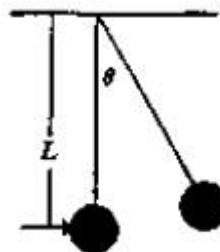

Figure 1: Pendulum
A pendulum is a mass (bob) suspended by a string from a fixed point as shown in Fig. 1. For a pendulum limited to *small amplitude oscillations* classical mechanics gives us the following relationship between the acceleration of gravity, g , the length of the pendulum, L , and its period, T .
1. Pendulum (see Fig. 1)